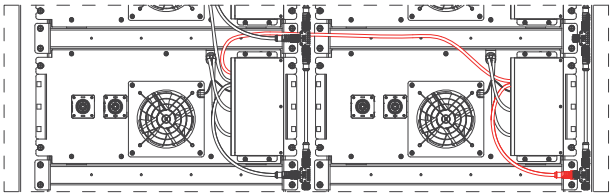

Figure 2.10
(6) Fifth and sixth battery box BMU communication connection (Figure 2.10).